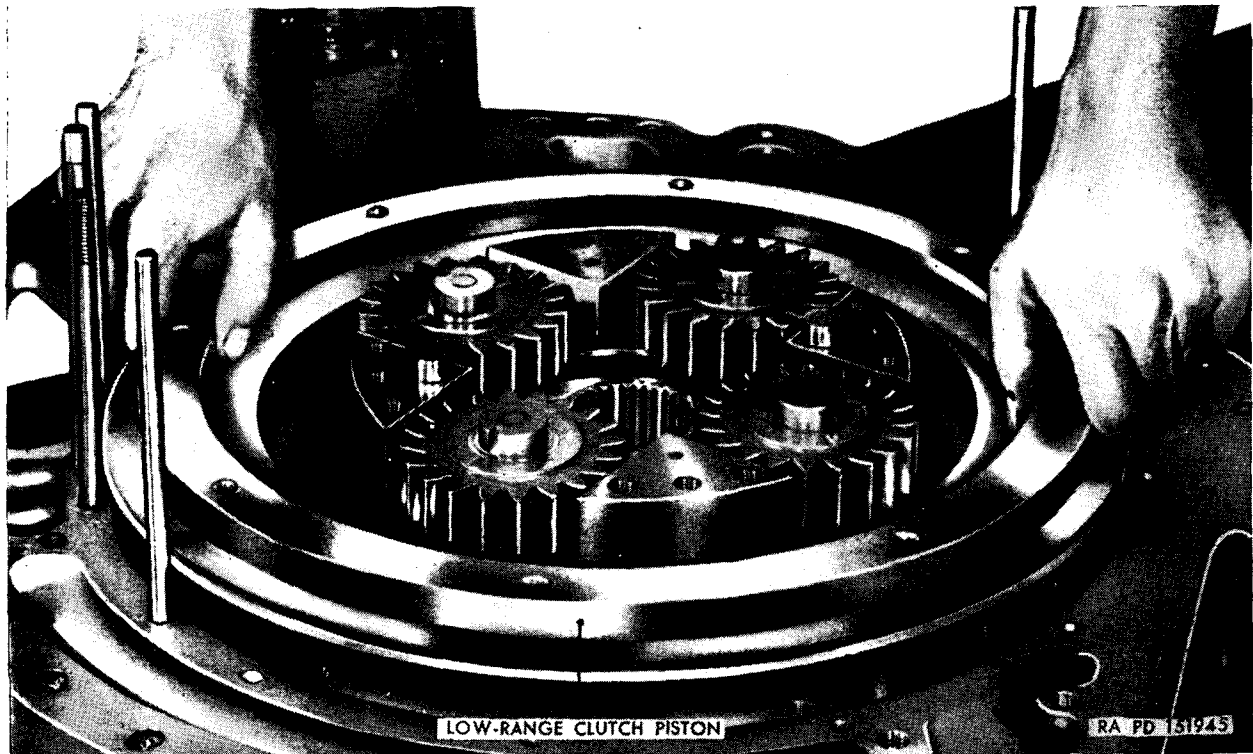

Figure 206. Removing or installing low-range-clutch piston.
- (3) Lift off the low-range-clutch ring. Remove the low-range clutch piston (fig. 206).
- (4) Remove the 11 bolts from the output-sump pump, using a $\frac{1}{2}$ -inch wrench and remove the pump.